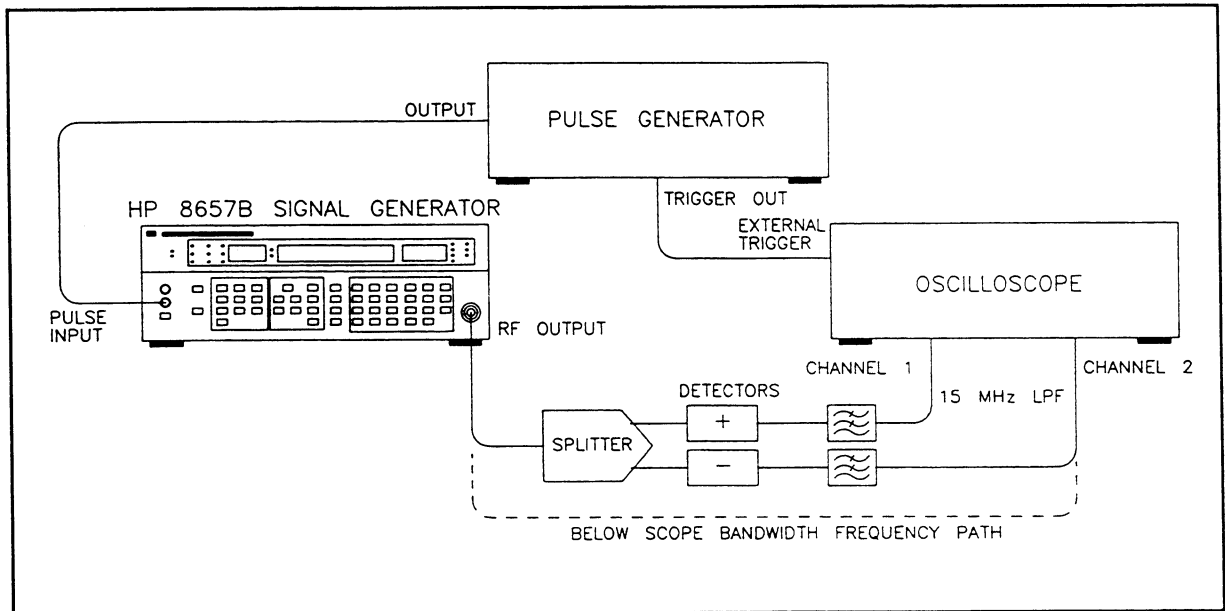
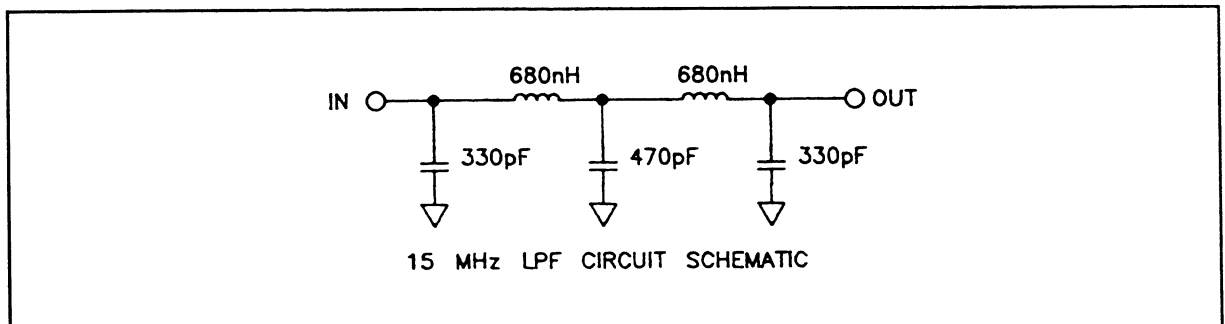

Figure 4-14. Rise/Fall Time Test Setup with Peak Detectors
Figure 4-15. Schematic for 15 MHz Low Pass Filters
- 15 MHz Low Pass Filter (2 Required)..... (See Figure 4-15)
36. Connect the equipment as shown in Figure 4-14. Low Pass Filters can be constructed using the schematic in Figure 4-15.